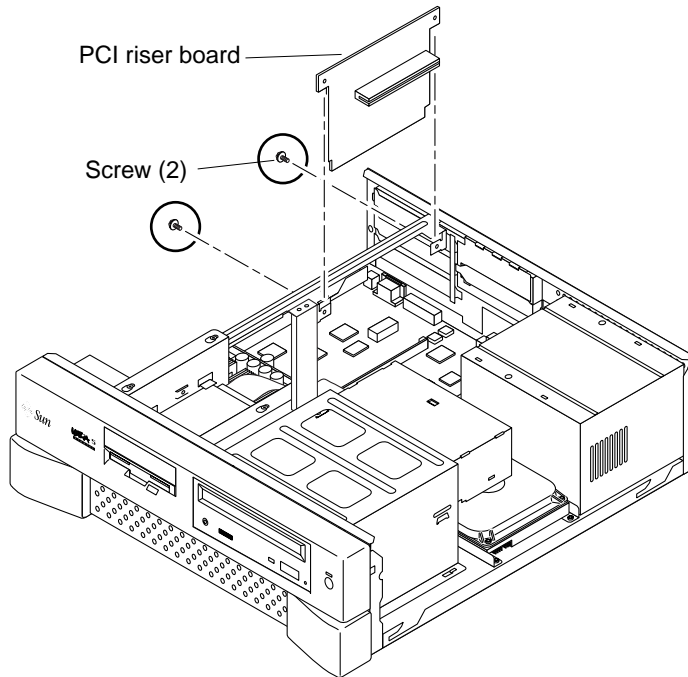

FIGURE 8-6 Removing and Replacing the PCI Riser Board
3. **Remove the PCI riser board as follows (FIGURE 8-6):**
1. **Replace the PCI riser board as follows (FIGURE 8-6):**